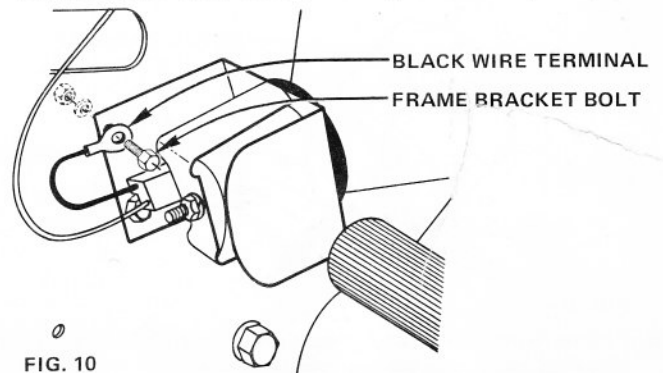

FIG. 10
1. Remove one of the Bracket to Frame Bolts (Fig. 10).
2. Connect terminal on black wire of Meter Wire Harness to Bracket and Frame Bolt and retighten securely (Fig. 10).